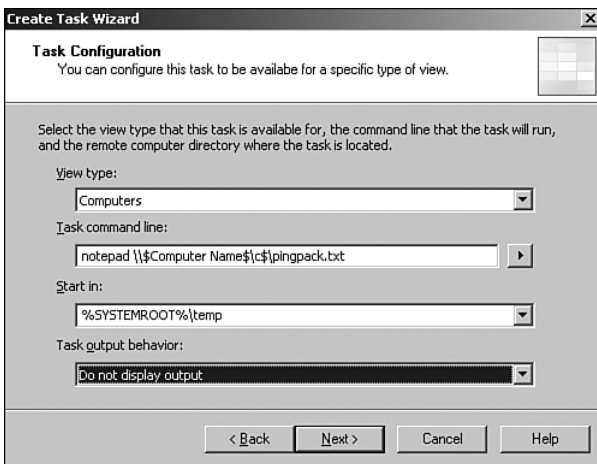

FIGURE 20.29 Configure the details on the task.
4. The next screen is the Task Creation screen where we describe what the task will perform. This includes the View Type, where the task will be visible within the Operator console, and the task command line that specifies where the task will start and the output behavior. For our task the view type will be Computers, the command line is `notepad \\$Computer Name$\PingPack\PingPack.txt`, and the task output behavior is set to not display output. These options are displayed in Figure 20.29.